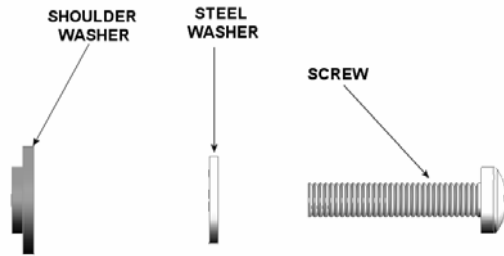
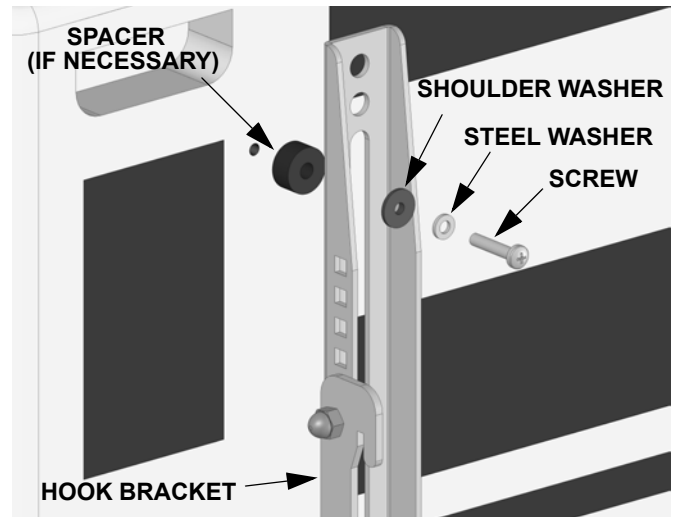
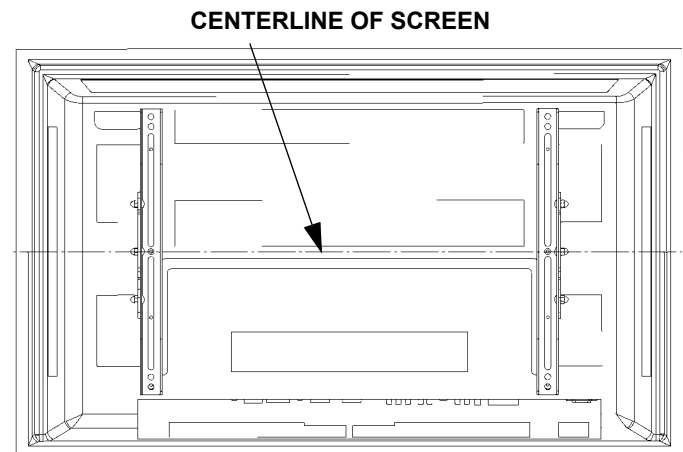

Figure 4. Attachment Parts
Figure 5. Attachment
Figure 6. Center Line of Display
2. Position the interface bracket assemblies (20 and 30) with the hook bracket faced toward the outside of the display (refer to Figure 5).
3. Using the center hole on the interface bracket as a reference point, align the bracket with the center line of the display (see Figure 3 and Figure 6).
- Secure the left and right factory assembled interface bracket assemblies (20 and 30) to the display. Select the mounting hardware that fits your application. Read the following list and refer to Figure 4 and Figure 5.
- Use M6 screws (70 or 80) or M8 screws (40, 50, or 60), steel washers (160), and shoulder washers (200).
- Or, use M4 screws (120, 130, or 140) or M5 screws (90, 100, or 110) steel washers (150), and shoulder washers (190).
- Find the center line of the display once again (see Figure 6).
- If necessary, remove the attaching hardware and move the hook brackets as close to the center line of the display as possible (see Figure 6). Re-install the hook brackets onto the interface brackets.